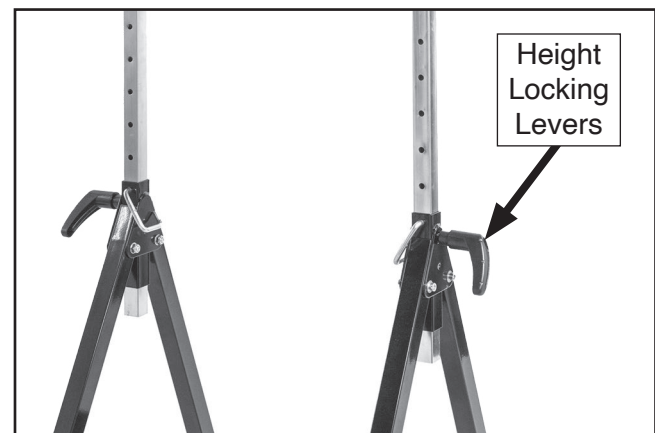

Figure 10. Height locking levers installed.
9. Thread height lock levers into stand leg threaded holes, then tighten to secure stand in place (see **Figure 10**).